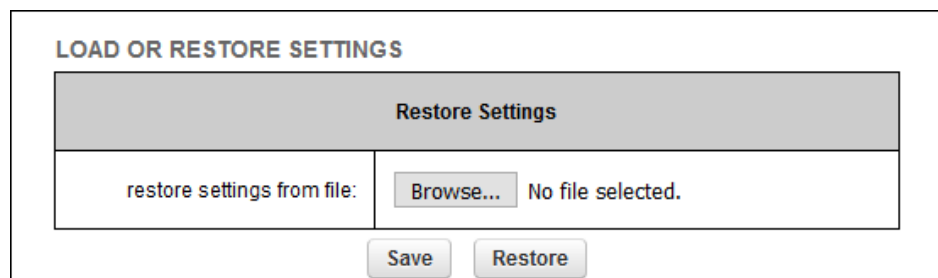

Figure 59. Configurator GUI (LOAD OR RESTORE SETTINGS dialog)
- The **LOAD OR RESTORE SETTINGS** dialog will be shown (Figure 59 (page 140)).